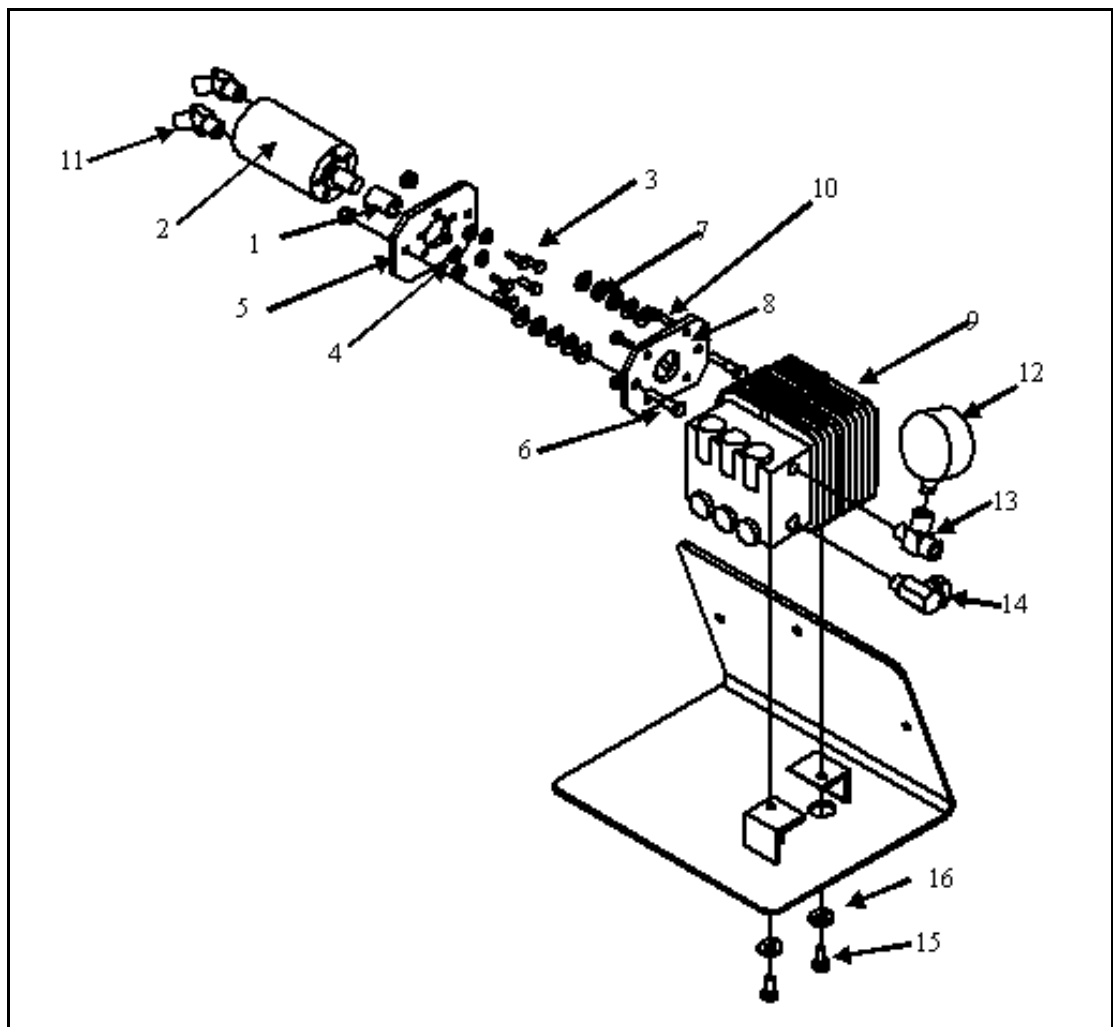

Figure 1.3 Water Spike Pump Assembly
1. Place the hydraulic motor sleeve (1) over the shaft of the hydraulic motor (2). Then using five M6 x 1 x 20 GR8 bolts (3) and 1/4" lock washers (4), attach the 8-hole motor/pump adapter (5) to the hydraulic motor (2) (Figure 1.3).
2. Using two 5/16" x 1-1/2" bolts (6) and ten 1/4" flat washers (7), attach the 7-hole motor/pump adapter (8) to the 8 hole motor/pump adapter (5) (Figure 1.3).
3. Attach the hydraulic motor (2), with adapters, to the pump (9) using four M6 x 1 x 18 socket head bolts (10) (Figure 1.3).
4. Thread the two 45° elbow fittings (11) into the hydraulic motor (2). Thread the hydraulic tee fitting (13) into the pump (9), then install the water pump gauge (12) to the hydraulic tee fitting (13). Install the 90° elbow fitting (14) into the pump (9) (Figure 1.3).